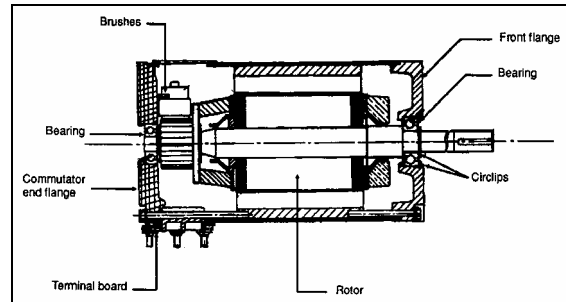

FIGURE 27: CONDENSER FAN MOTOR
2. Unscrew the flange retaining screws on the shaft end side (opposite to the commutator end frame), and separate flange from frame (Fig. 27).